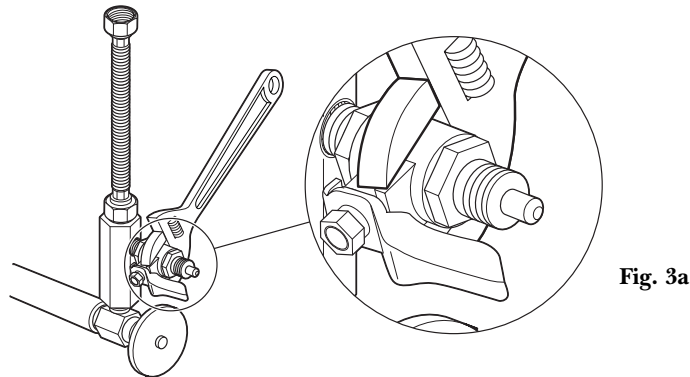

Fig. 3a
1. Remove inlet valve (F) from adapter (C) using adjustable wrench on valve body. See Fig. 3a for details. **DO NOT USE WRENCH ON HEX NUT END OF VALVE AS LEAK MAY OCCUR.**
5. Hand tighten inlet valve (F) into the adapter (C), then finish tightening with adjustable wrench (see Fig. 3a). **DO NOT USE WRENCH ON HEX NUT END OF VALVE AS LEAK MAY OCCUR.**